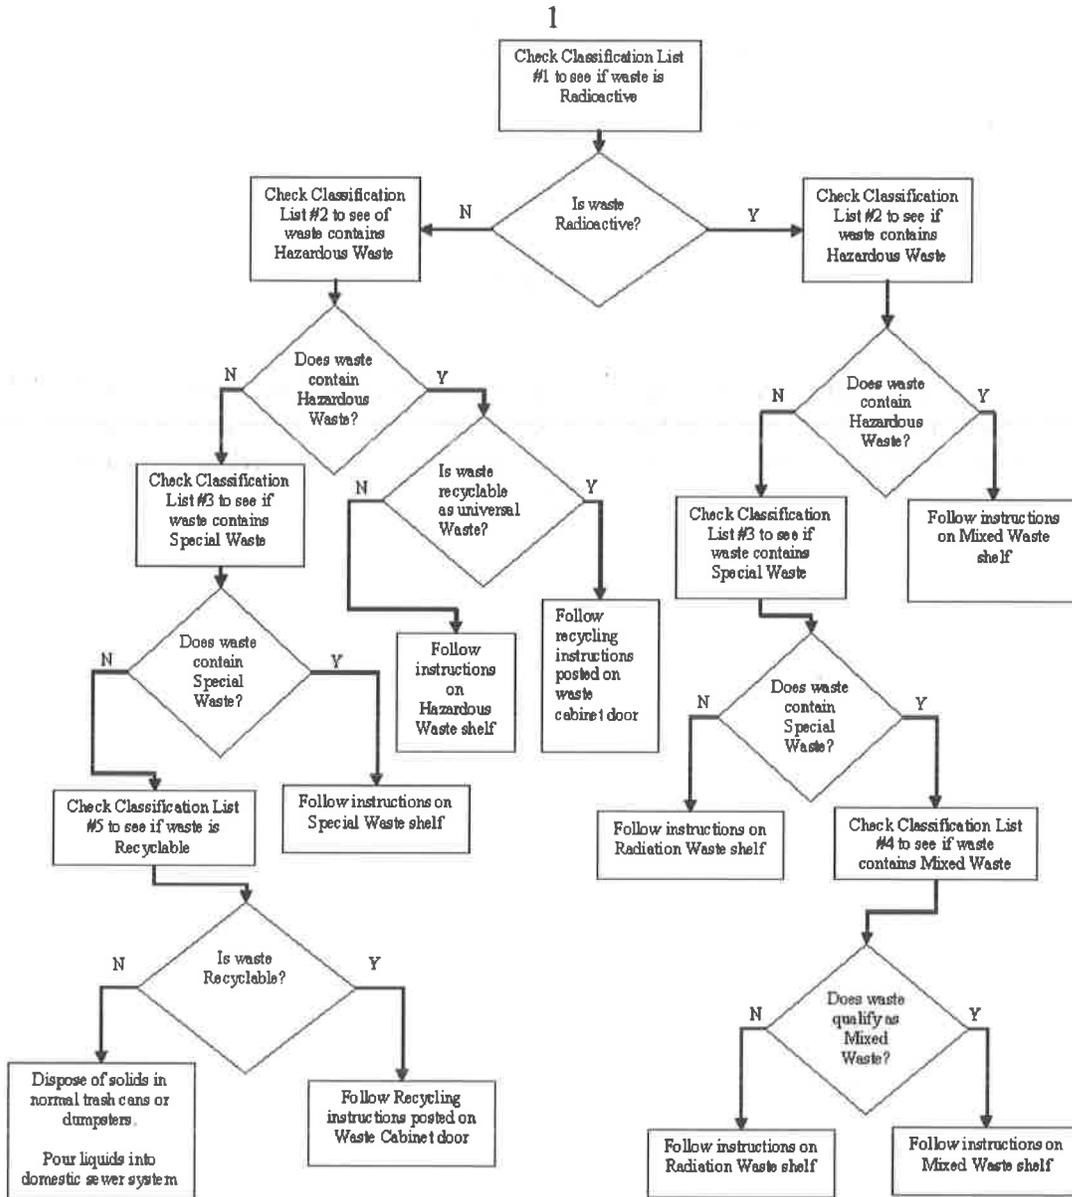

Figure 1: Flowchart for identifying waste classification
4.3 Use the flow chart (see fig. 1) and waste classification lists (see Attachments B-F) posted inside the cabinet doors to identify the classification of waste and to determine which shelf the waste should be stored on.